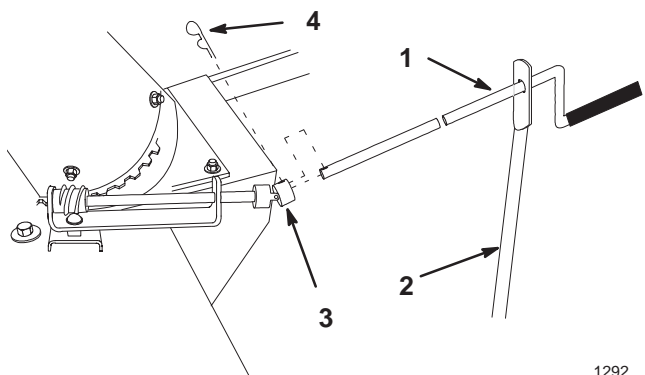

Figure 19
26. Slide crank handle through hole in support and secure handle to U-Joint with hairpin cotter (Fig. 19).